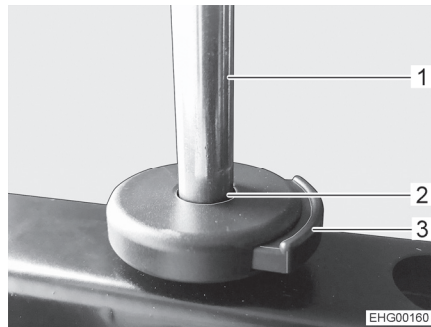

Fig. 20 Release button (headrest)
- Press the release button (Fig. 20,3).
- Plug the holding rod (Fig. 20,1) into the guide (Fig. 20,2).